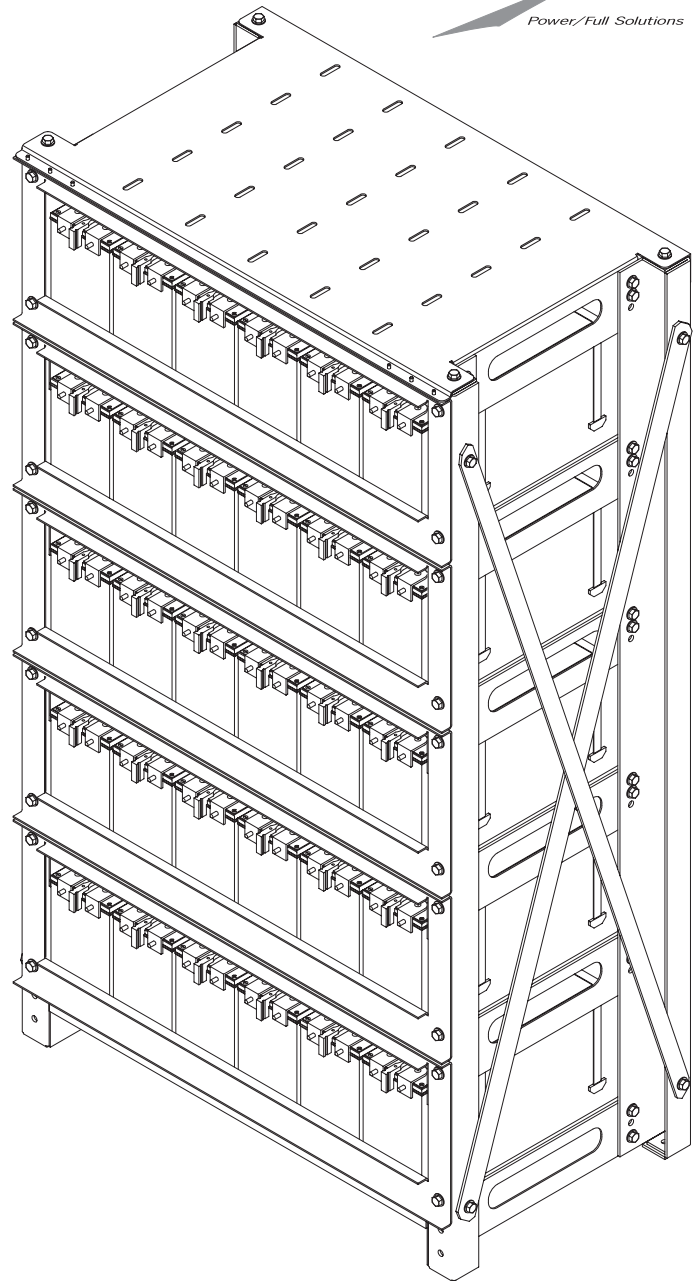

Figure 7.8
- Install seismic retainers per Figure 7.8.